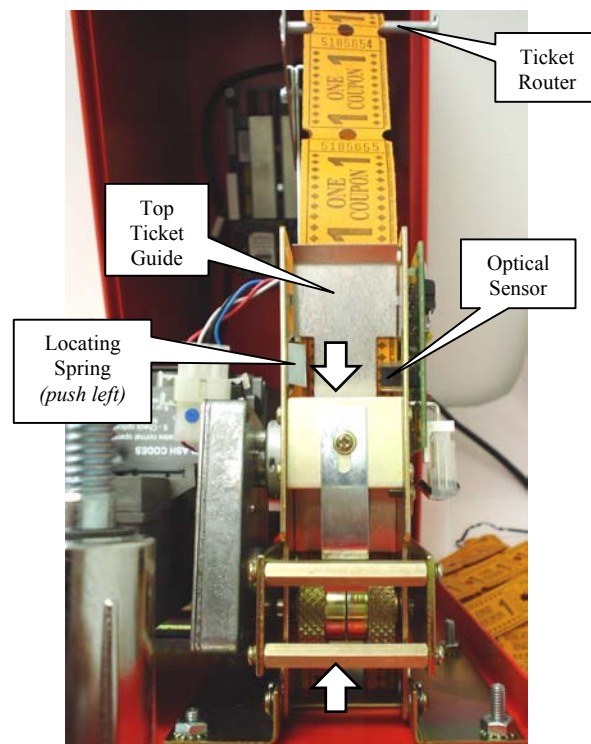

Fig. 1: DL-125 Ticket Dispenser, top view (AC111 Shown)
1. If there are tickets remaining in the dispenser, remove them before proceeding, and empty the ticket bin. Loosen the grip of the Validation/Embossing rollers by pressing the metal plate and metal spacer toward each other, using your thumb and forefinger (apply pressure at the points indicated by the two white arrows in Fig. 1). While the rollers are being held apart, use your other hand to pull the tickets out of the mechanism.
3. Pull the top row of tickets up, directing them around the Ticket Router as seen in Fig. 1, and feed them face-up into the entrance of the ticket dispenser mechanism, between the top and bottom metal ticket guides. If necessary, gently push the Locating Spring out of the way with one hand while feeding the tickets with the other.